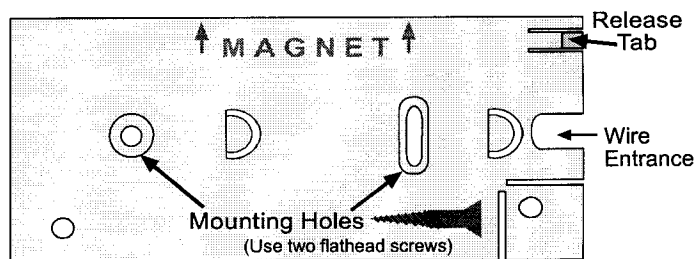

Figure 2 - Mounting Plate
- Position the Mounting Plate over the desired location. If connecting an external device, position the mounting plate so the wiring passes through the Wire Entrance (see Figure 2).
- Attach the Mounting Plate using two flathead screws (see Figure 2).
- The Point Transmitter may be released from the base by disconnecting any external wiring, removing the security screw (if used), then pressing the Release Tab (see Figure 2) with a small tool and sliding the Point Transmitter off the Mounting Plate.